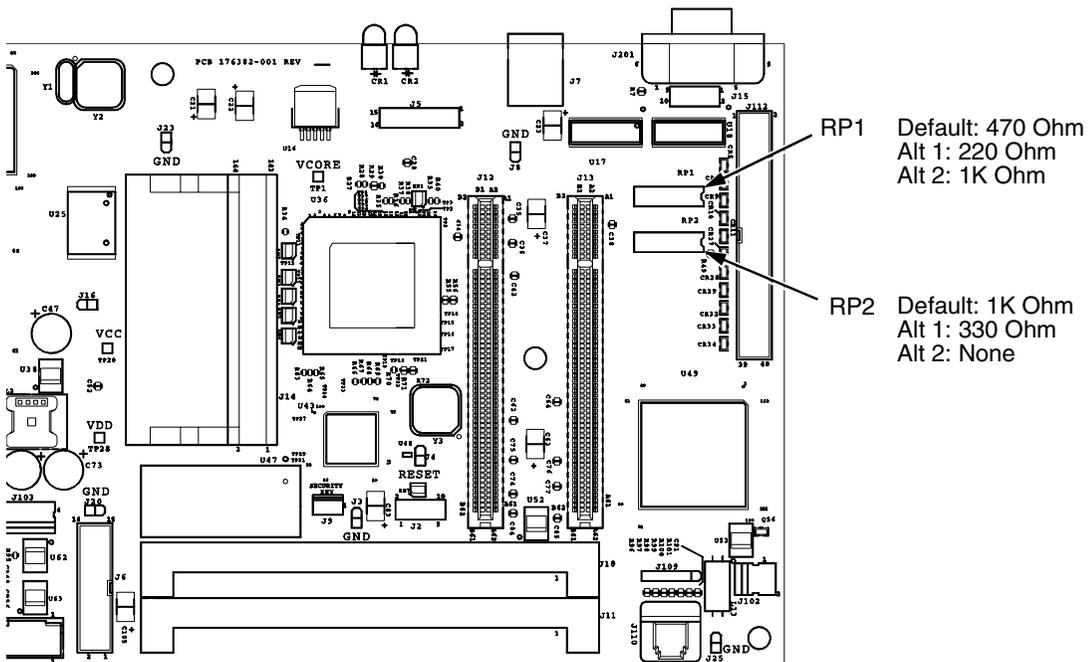

Figure 36. Terminating Resistors, Removal/Installation
For parallel interface configurations, the printer is equipped with 470 Ohm pull-up terminating resistors and 1K Ohm pull-down terminating resistors on the controller board. These are suitable for most applications. (See Figure 36, page 228.)
3. Locate the terminating resistor packs. (See Figure 36 on page 228.)
1. Using a chip installation tool, install the resistor packs in the correct socket. (See Figure 36 on page 228.)